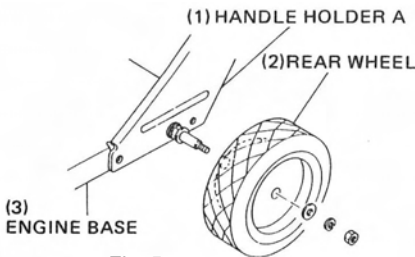

Fig. 5
- To install rear wheels, temporarily remove the nuts, spring washers and washers from the rear axle. Install the rear wheels and secure them with the washers and nuts in the same order. (Fig. 5)